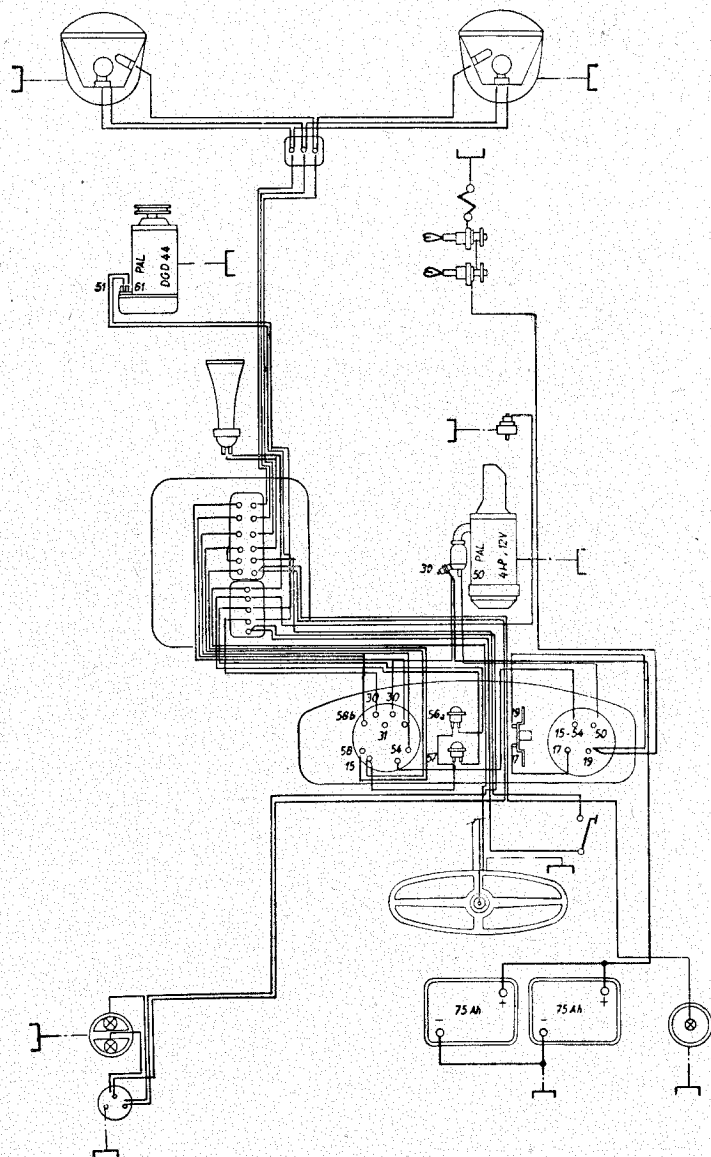

Fig. 74.
- b) From Serial No. 125-16147 up to Serial No. 125-40724 of the Zetor 25 and Zetor 25 A tractors (supplied from Serial No. 125-35120 onwards) and from Serial No. 225-1001 up to Serial No. 225-24329 of the Zetor 25 K tractors: dynamo model 02-9075.02 (DGD 44) Part No. 513.05, with built-in single-coil voltage regulator 02-9402.01, Part No. 530.05 - for wiring diagrams see Fig. 74 and 75.